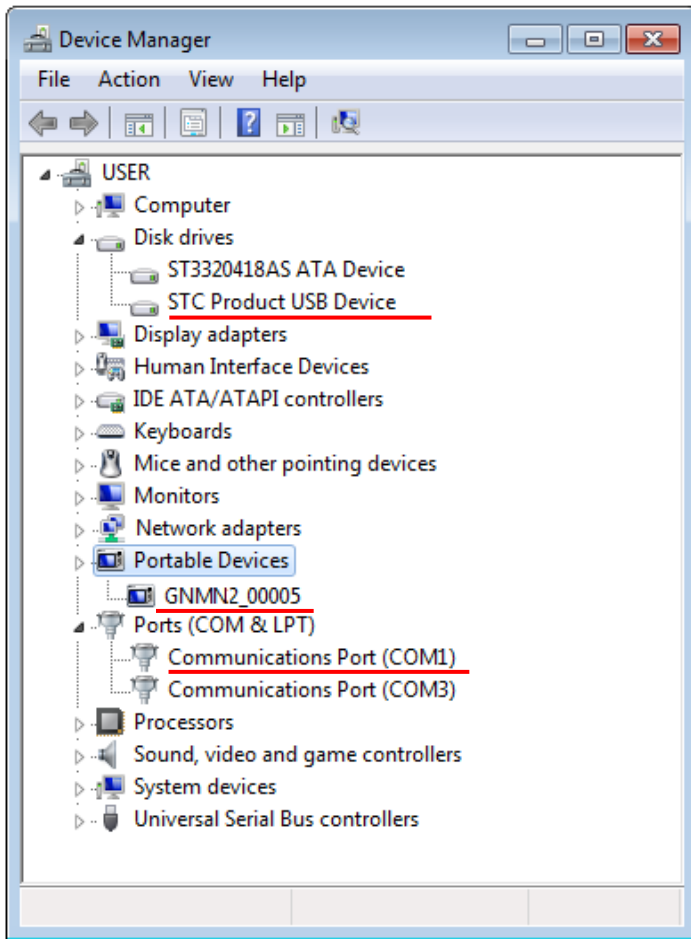

Figure 6: Device manager.
- If the driver is installed successfully, the device will show up in the **Device Manager** dialog (Figure 6):